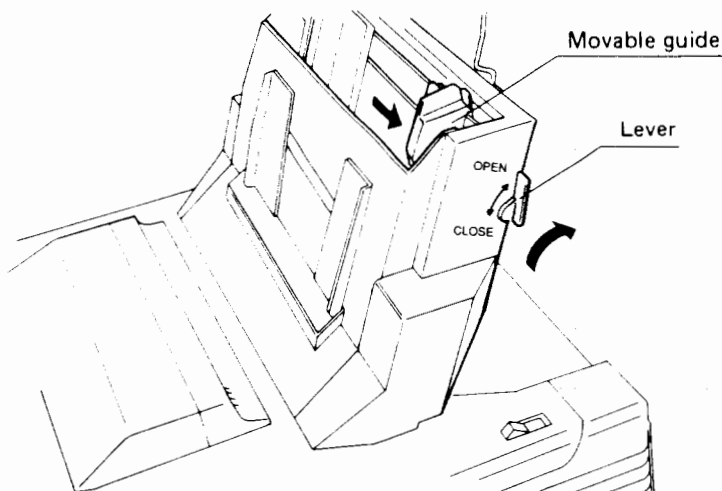

Figure 2-16 Paper release lever
- a. Raise the paper release lever on the right side of the paper bin to the position marked "OPEN" and slide the movable side guide all the way to the right. See Figure 2-16.